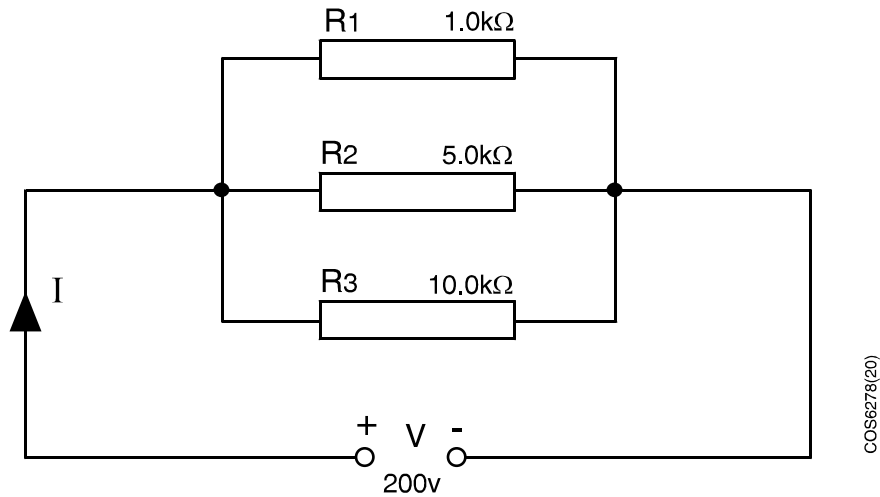

Figure 48
7. Given the information shown in Figure 48 above, calculate the supply current I).